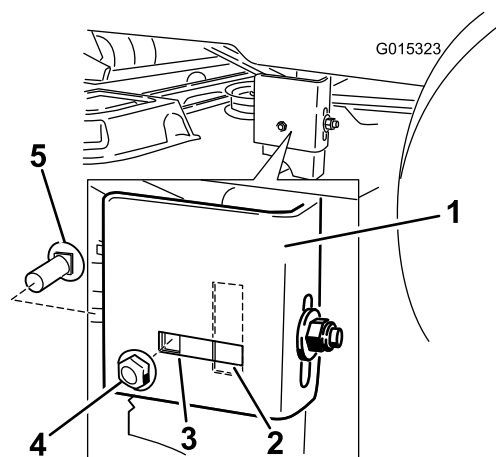

Figure 55
- Check if the side carriage bolt is in the fixed or slotted position (Figure 55).
Note: If the side carriage bolt is in the fixed position, remove the side carriage bolt and the side-locking nut from the fixed position, and install it into the slotted-adjustment position (Figure 55).